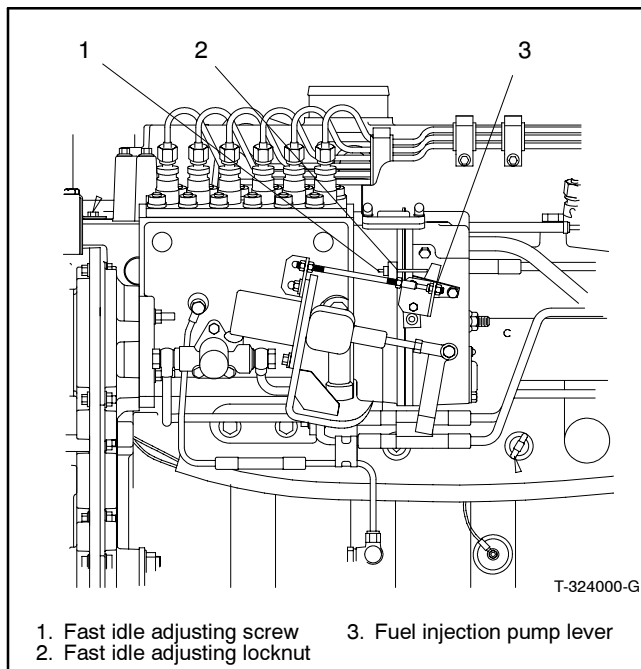

Figure 8-7 Governor Adjustments, Typical
- Verify that injector pump lever is held in fast idle position. See Figure 8-7.